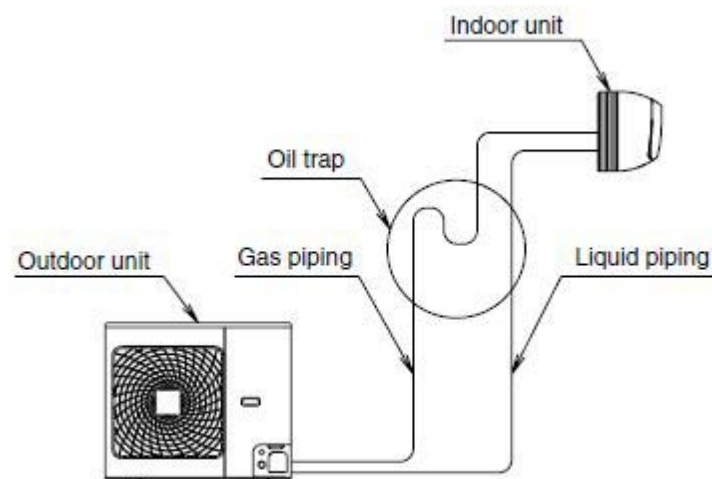

Fig.3.2.1
- ◆ When the indoor and outdoor units are on different height, please refer to Fig.3.2.1 for pipe layout.